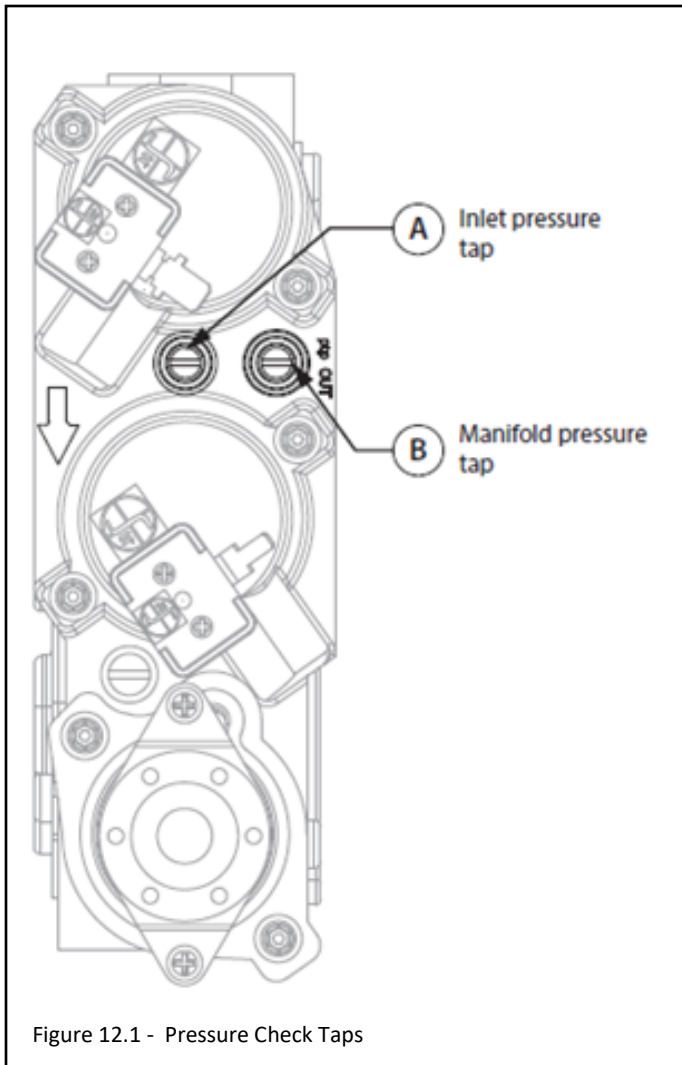

Figure 12.1 - Pressure Check Taps
1. Loosen the inlet (IN) pressure tap by turning screw counter-clockwise. See (A) in FIGURE 12.1.
5. Disconnect hose and tighten the inlet (IN) pressure tap by turning screw clockwise. Screw should be snug. Do not over tighten.
6. Relight pilot and burner. Then reattach manometer to the inlet pressure tap (A) to verify the tap is completely sealed. Manometer should read no pressure.
2. Loosen manifold (OUT) pressure tap by turning screw counter-clockwise. See (B) in FIGURE 12.1.
7. Attach the manometer to the manifold pressure tap (B) to verify it is completely sealed. The manometer should read no pressure when pilot and burner are on.